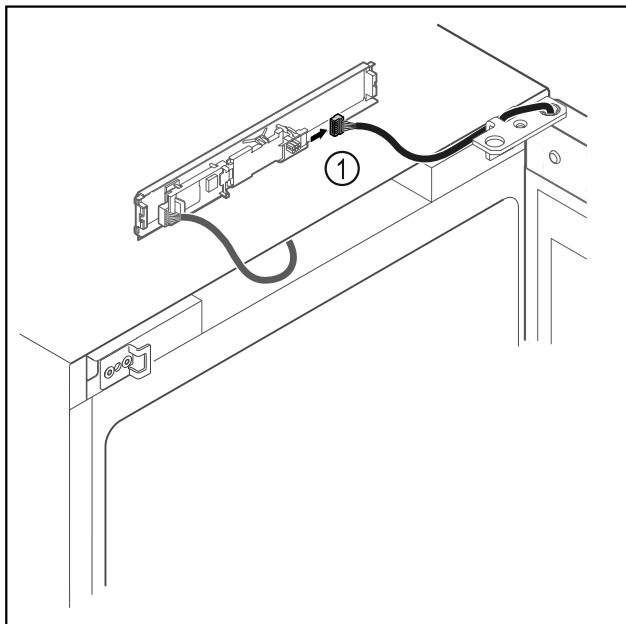

Fig. 6
- Disconnect the plug *Fig. 6 (1)* from the circuit board.